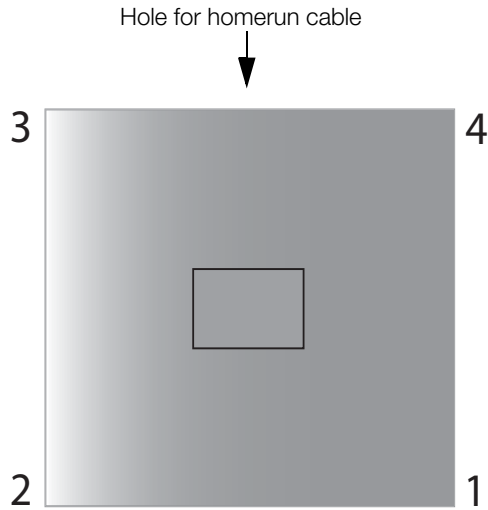

Figure 4-3. Corner numbering (top view)
1. Remove the summing board cover and identify the correct load cell terminal corresponding to each corner (labeled CELL 1, CELL 2, and so on). See Figure 4-3 on page 10 for scale deck corner numbering.
The four load cells are each wired to their respective terminals in the summing board according to the corner numbering system shown in Figure 4-3 and the coloring code in Table 4-1.